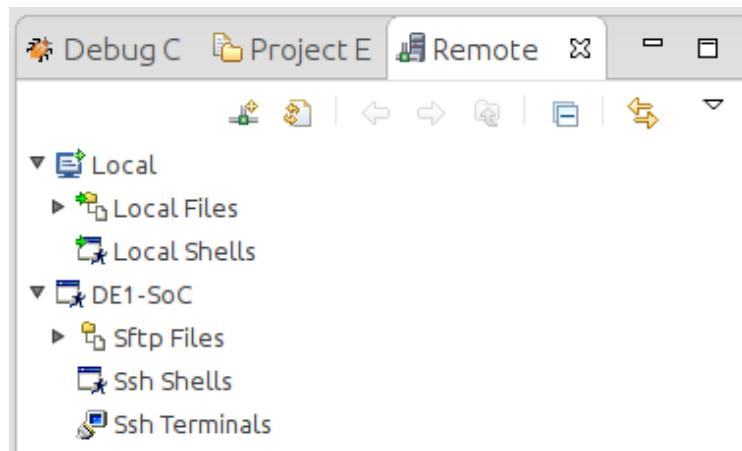

Figure 13-13. New SSH Connection In "Remote Systems" View
75. You should be able to see the remote system in ARM DS-5's “Remote Systems” view, as shown in Figure 13-13.